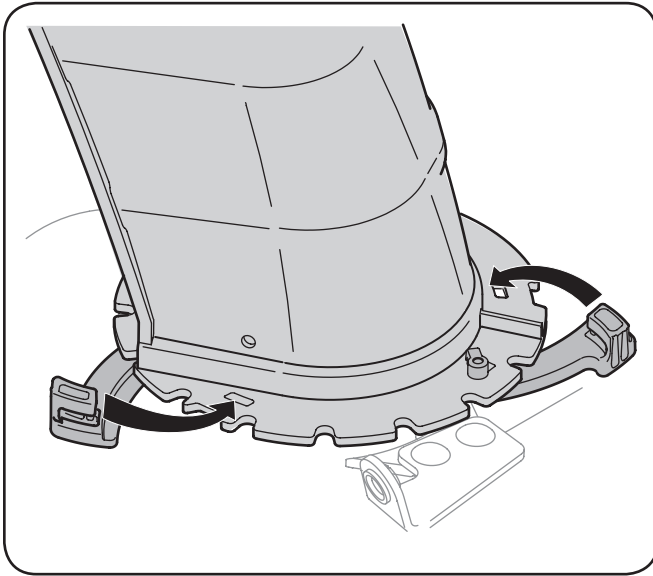

Figure 3-4
- Close the flange keepers to secure the chute assembly to the chute base. The flange keepers will click into place when properly secure. See Figure 3-4.